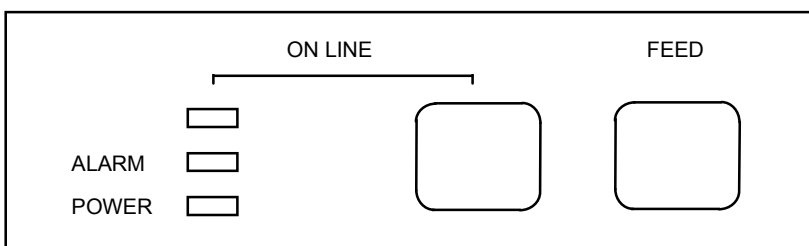

Figure 5-1: Printer Control Panel
1. Set the printer to off-line operation by pressing the ON LINE button on the printer control panel (see Figure 5-1) so that the ON LINE diode is not lit.